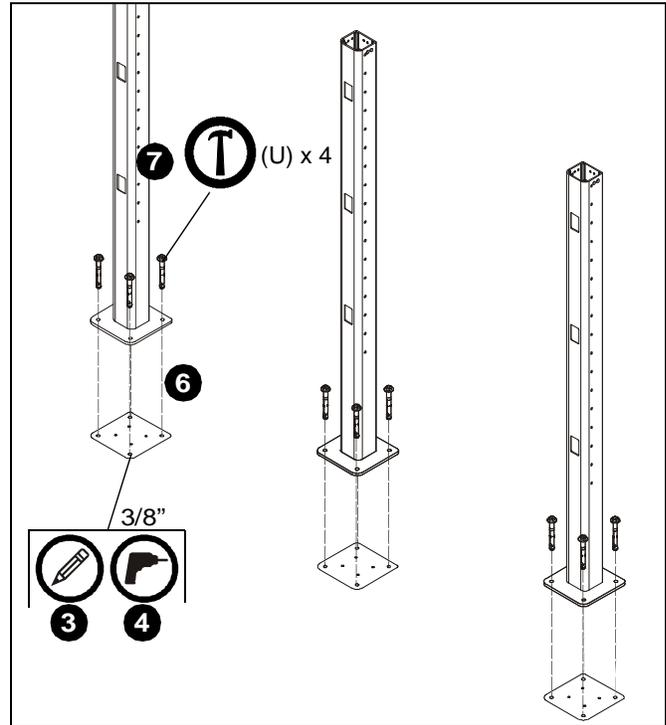
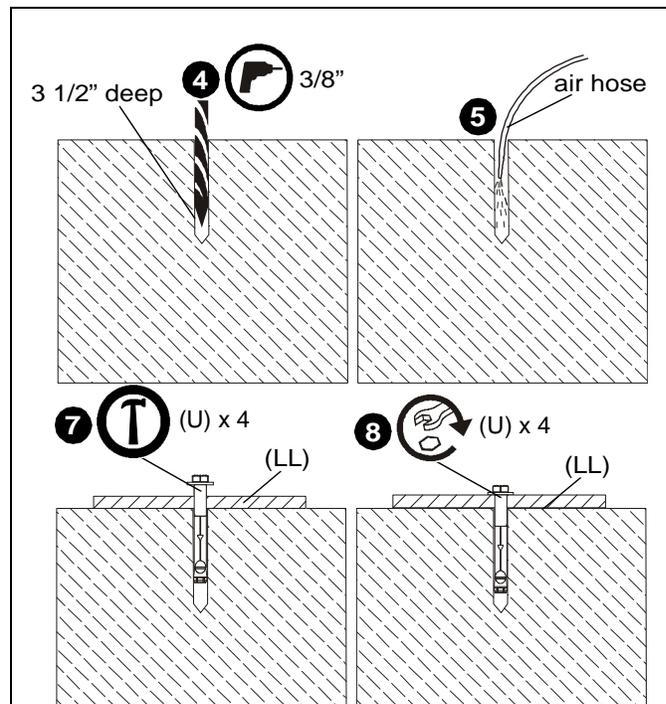

Figure 2
Figure 3
3. Using bolt down plates (LL) as templates, mark four holes at outside hole locations for each column. (See Figure 2)
4. Using a 3/8" drill bit, drill a hole 3 1/2" in depth at each marked location. (See Figure 2) and (See Figure 3)
5. Blow each hole clean of any concrete debris with a large air hose or compressed air in a can. (See Figure 3)
6. Place each bolt down plate (LL) on top of drilled holes making sure holes on plate are aligned with drilled holes. (See Figure 3)
7. Use a hammer to drive anchors (U) through plate holes into the drilled holes until the bolt head is firmly seated against the plate. (See Figure 2) and (See Figure 3)
8. Tighten each anchor by turning the head three to four turns past finger tight. (See Figure 3)